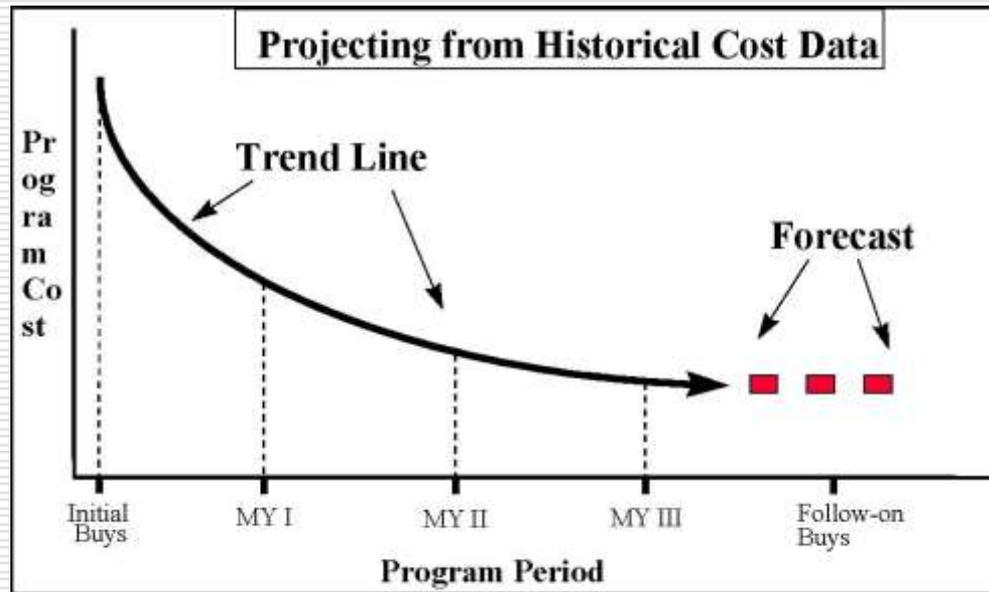

Figure 8.3 Projecting from Historical Data
- The graph in Figure 8.3 shows how an estimator may project cost from the normalized data